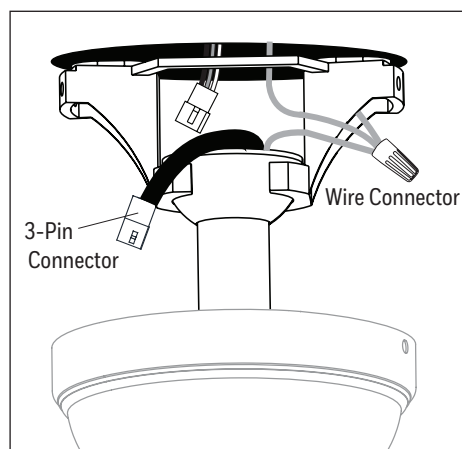

Figure 5.2
- Connect the 3-pin connector extending from the downrod to the 3-pin connector on lead wire. Then, connect the green/bare (ground) supply wire to the green wires from the downrod and the mounting bracket (Figure 5.2).